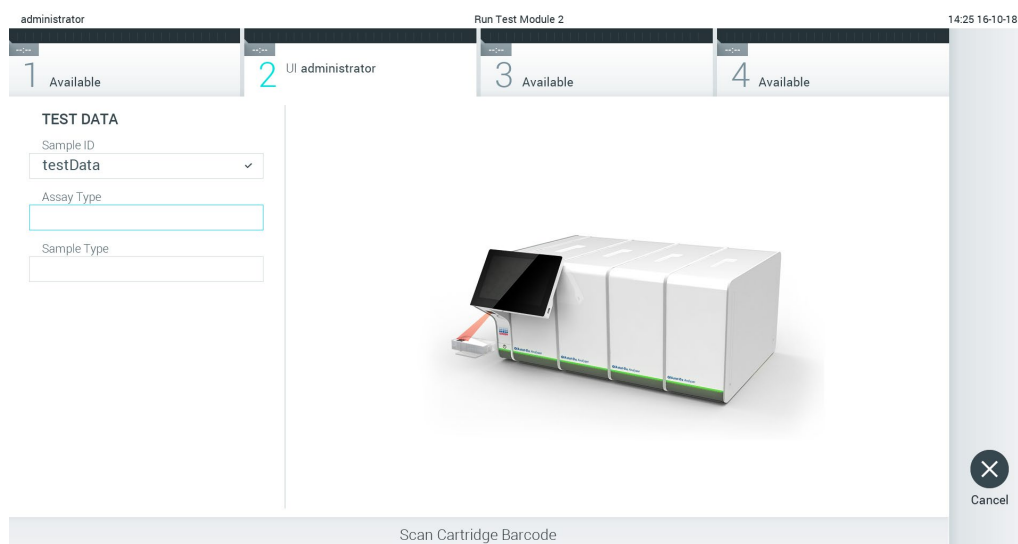

Figure 24. Scanning the QIAstat-Dx assay cartridge bar code.
3. When prompted, scan the bar code of the QIAstat-Dx assay cartridge to be used. The QIAstat-Dx Analyzer 1.0 automatically recognizes the assay to be run, based on the QIAstat-Dx assay cartridge bar code (Figure 24).